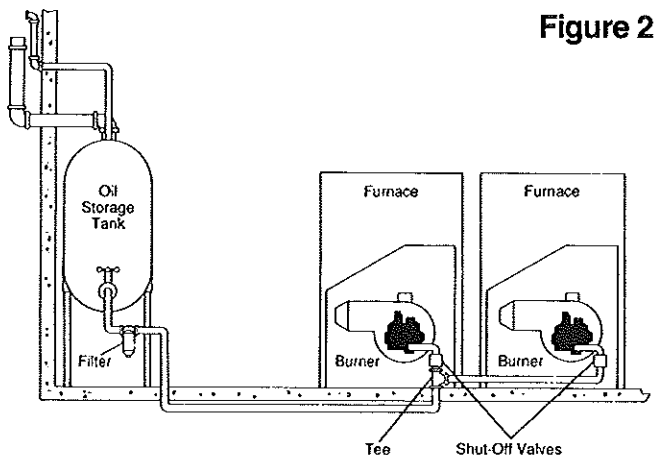

Figure 2 Gravity-Feed, Single- Pipe, Two Burners Without OSV Valves
**Figure 2** depicts a typical single-pipe, gravity-feed system without an OSV® valve and two burners. Because of the limited vacuum capability of a single-pipe system, and the requirement for oil spill protection, it is recommended that 2 OSV® valves be used, one for each burner, as shown in **Figure 3**. Do not use a single OSV® valve for both burners. A possible installation would be to introduce a tee immediately following the filter,